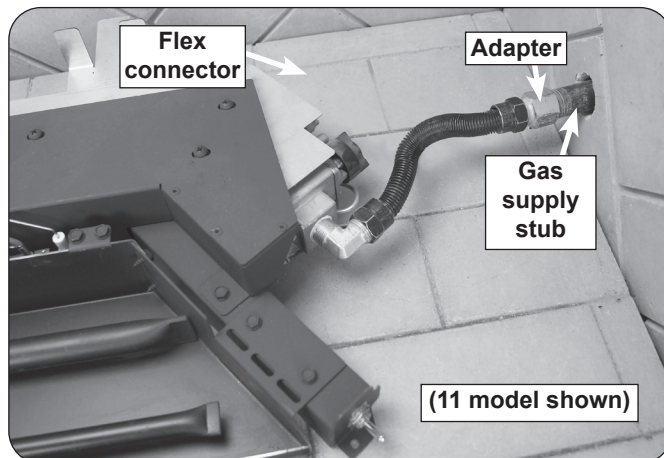

Fig. 14-1 Connect burner to gas supply
2. Locate the gas-supply stub inside the fireplace and remove the cap, if attached (reference Fig. 14-1).
4. **Be sure gas to the fireplace is off.** Remove the adapter connected to the flex connector (pre-installed on the burner system). Attach the adapter to the gas-supply stub using a pipe compound resistant to all gasses. Tighten securely. Then attach the open end of the flex connector to the adapter. Tighten securely. See Fig. 14-1.